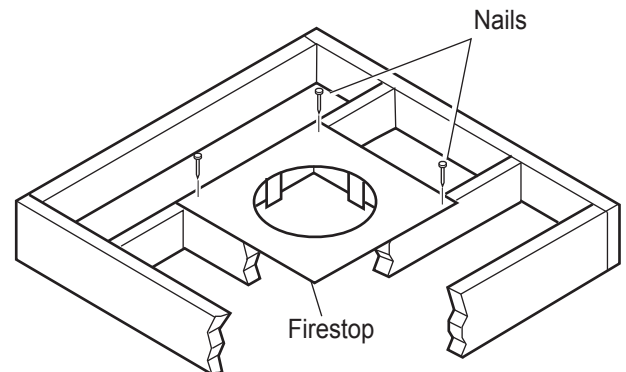
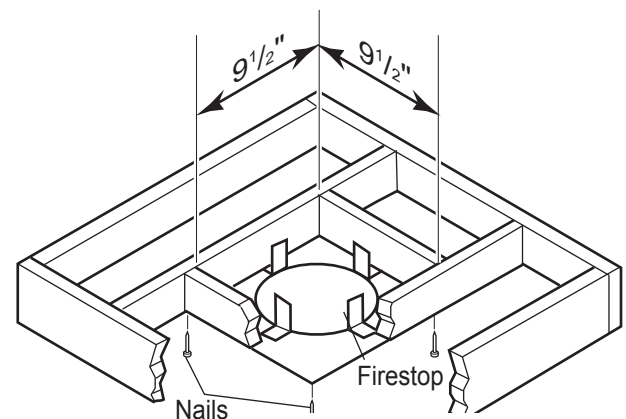

Figure 28a- If area above is a room, install firestop above framed hole as shown
Figure 28b - If area above is not a room, install firestop below framed hole as shown
1. Cut a 9 $\frac{1}{2}$ " (241mm) square hole in the ceiling using the locating hole as a center point. The opening should be framed to 9 $\frac{1}{2}$ "x9 $\frac{1}{2}$ " (241 mm x 241mm) inside dimensions as shown in *Figure 12*, page 17 using framing lumber the same size as the ceiling joist. If the area above the ceiling is an insulated ceiling or a room, nail firestop from the top side. This prevents loose insulation from falling into the required clearance space. See *Figure 28a*. Otherwise, install firestop below the framed hole. The firestop should be installed with no less than three nails per side. See *Figure 28b*.